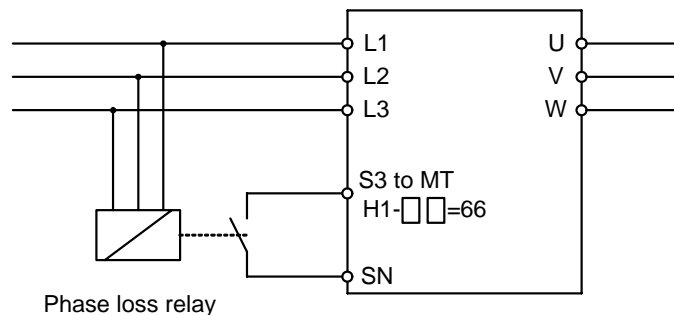

Fig 6.94 Wiring Example for KEB function with Phase Loss Relay
1. With phase loss relay: The KEB function input signal has to be programmed to one of the digital inputs, H1-□□ = 65 (KEB input N.C.) or 66 (KEB input N.O.). See also the wiring example in Fig 6.94. The KEB function is started by a closed contact on the specific terminal.